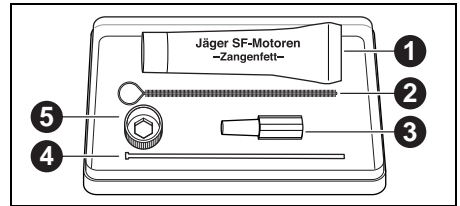

Fig. 11 Service set for Jäger spindle
- ▷ Apply a light coat of the collet grease ([1] in Fig. 11 on page 18) from the service set to the outer cone of the collet.